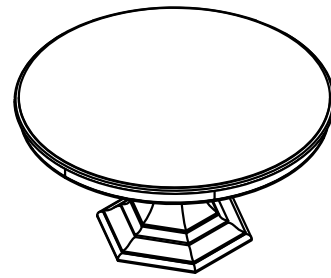

Figure 1
2. Attached table base to top using Bolt (A), Lock Washer (B), Flat Washer (C) and tighten with Allen Wrench (D). As shown in Figure 1.